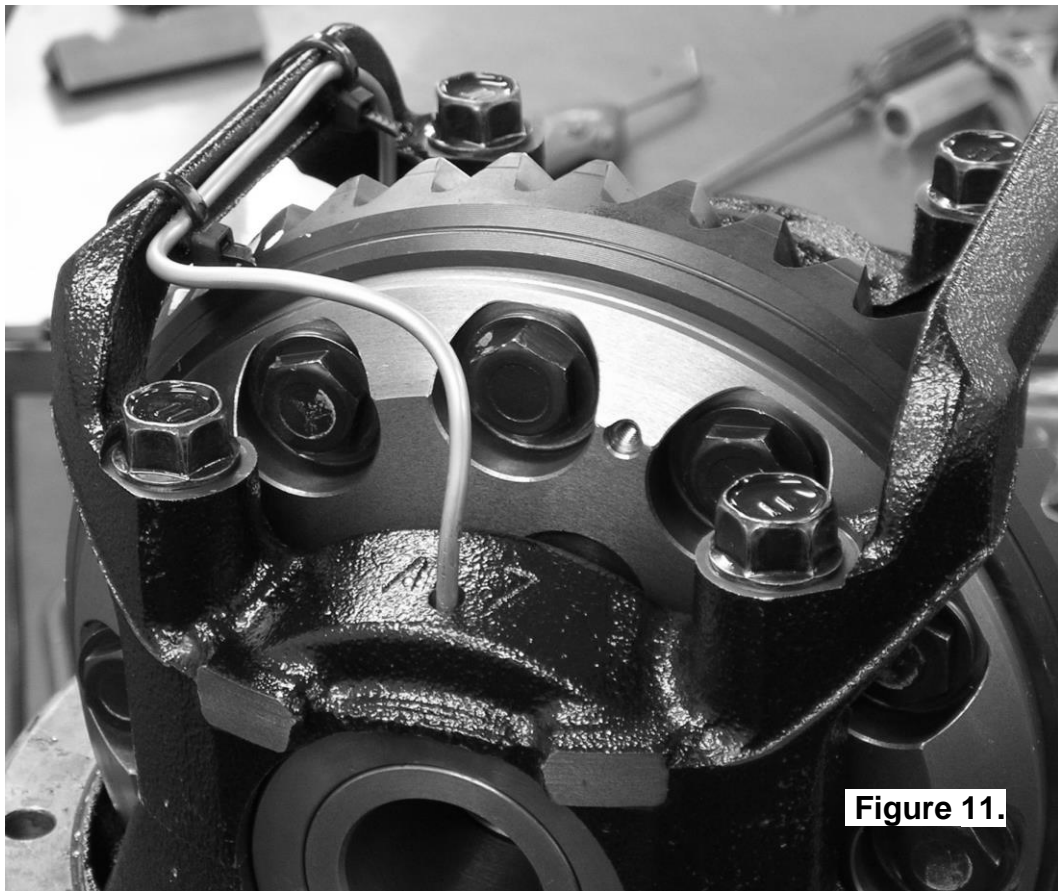

Figure 11.
- ☐ Without using sharp, jagged tools such as pliers (usually your hands are the best tool for this job), bend the seal housing tube so that it closely follows the bearing cap brace and protrudes through the bulkhead port in the differential housing (refer to Fig. 11.).
- ☐ Cable tie the tube to the bearing cap brace (Fig. 11.).